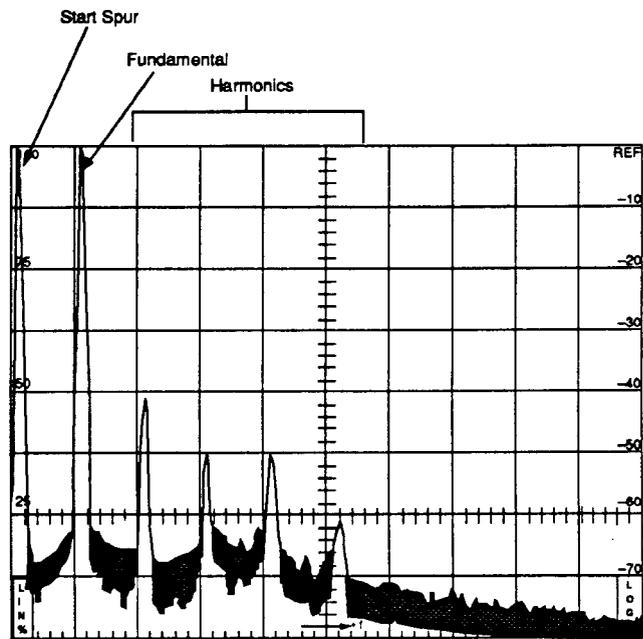

Figure 12. Harmonic spur distribution near the 100 kHz fundamental (10 dB/div display).
d. The test spectrum analyzer will display harmonic spurs approximately one division apart. The signal at the left graticule line is the start spur (0 Hz), the signal to the right of the start spur is the fundamental, and all signals to the right of the fundamental signal are harmonic spurs. See Figure 12.